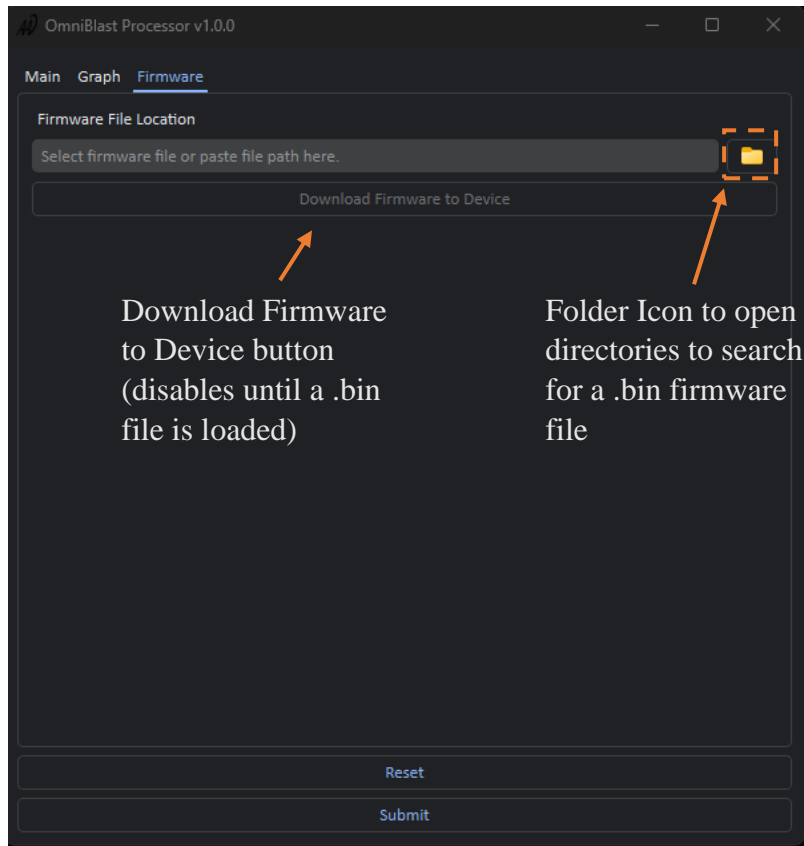

Figure 29. Firmware tab of the OmniBlast™ Processor.
3. **Firmware Flashing:** The firmware tab (**Figure 29**) in the OmniBlast™ Processor is used for flashing firmware to sensors.